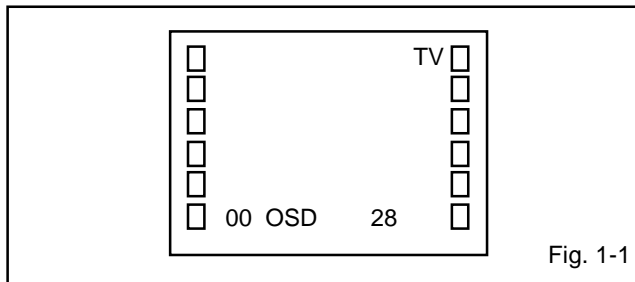

Fig. 1-1
2. Press the VOL. DOWN button on the set and the Channel button (9) on the remote control for more than 1 second to appear the adjustment mode on the screen as shown in Fig. 1-1.
4. Activate the adjustment mode display of Fig. 1-1 and press the channel button (01) on the remote control to select "CUT OFF".
4. Activate the adjustment mode display of Fig. 1-1 and press the channel button (12) on the remote control to select "R. BIAS".
10. If the picture is too much green. Activate the adjustment mode display of Fig. 1-1 and press the channel button (28) on the remote control to select "CB PED".
12. If the picture is too much red. Activate the adjustment mode display of Fig. 1-1 and press the channel button (29) on the remote control to select "CR PED".
4. Activate the adjustment mode display of **Fig. 1-1** and press the channel button **(22)** on the remote control to select "COLOR CENT".
4. Activate the adjustment mode display of **Fig. 1-1** and press the channel button **(24)** on the remote control to select "TINT".
3. Activate the adjustment mode display of **Fig. 1-1** and press the channel button **(07)** on the remote control to select "V. SIZE".
3. Activate the adjustment mode display of **Fig. 1-1** and press the channel button **(08)** on the remote control to select "V. LINEARITY".
3. Activate the adjustment mode display of **Fig. 1-1** and press the channel button **(03)** on the remote control to select "H.PHASE".